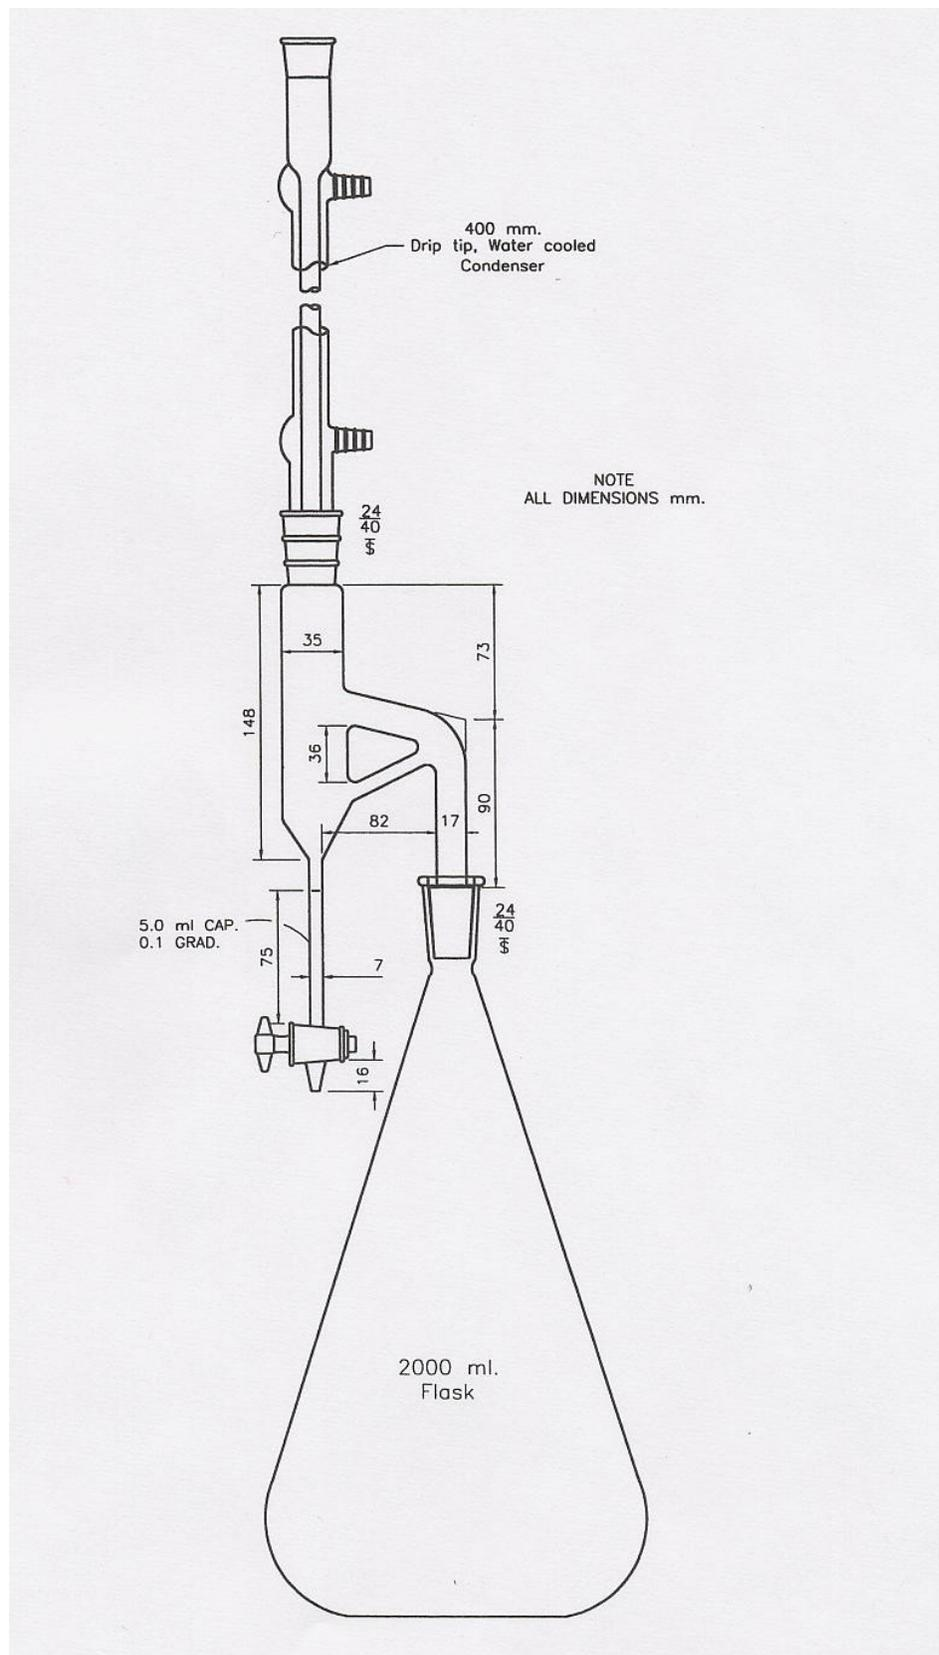

Figure 2. Apparatus assembled for steam distillation (ASTA method 5.0).
3. Assemble apparatus as shown in Fig. 2, selecting the trap depending upon the density of the oil to be trapped. (Note 3)